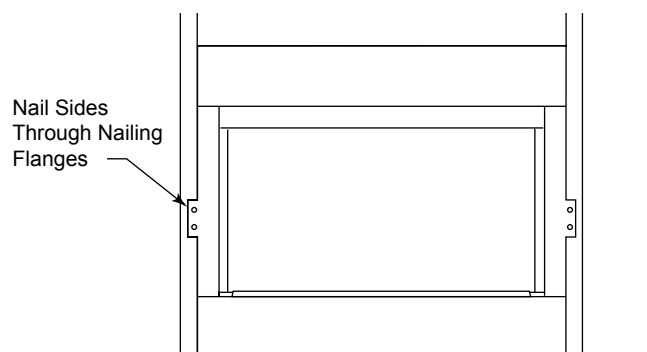

Figure 10. Nailing Flanges
4. Anchor firebox to the side framing members using 8d nails or other suitable fasteners. Figure 10